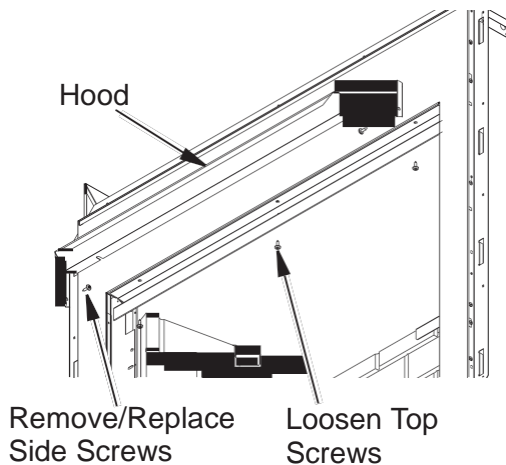

Figure 13 - Hood Placement
2. For Indoor/outdoor models, loosen screws along the fireplace top face. Remove two screws along fireplace face side. Slide hood underneath screws on top and tighten screws. Replace screws on side of fireplace face side securing hood to the face (see Figure 13).